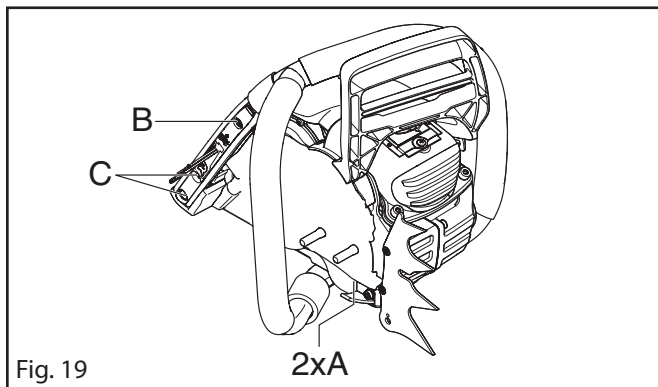

Fig. 19
- XPG: Unscrew the cover on the front handle (B, C). See figure 19.
- Remove the front handle (A) (five or six bolts depending on which handle that is being used). See figure 19.